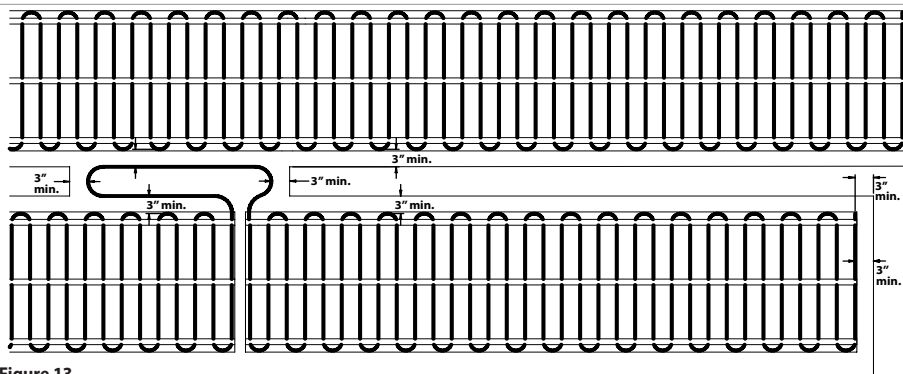

Figure 13
- When two adjacent rooms are heated by the heating cable, it is recommended to cover the traffic area between these rooms to avoid cold spots. To do so, simply cut the mat and remove the cable from the mat over a certain length to cover the traffic area (figure 13). Use scissors to cut the mat, being very careful not to damage the cable and use the mat to secure the cable onto the subfloor.